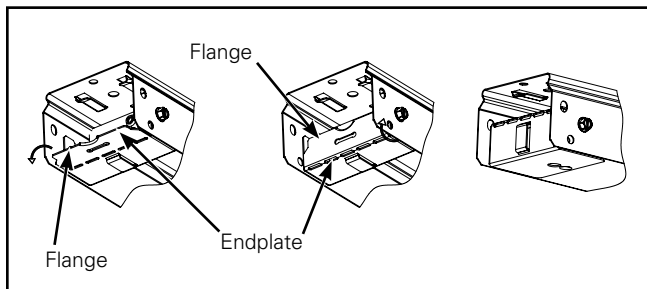

Figure 17.
2. Rotate upper endplate, bend flange as shown and rotate back to its original position in the Channel assembly. (Figure 17)